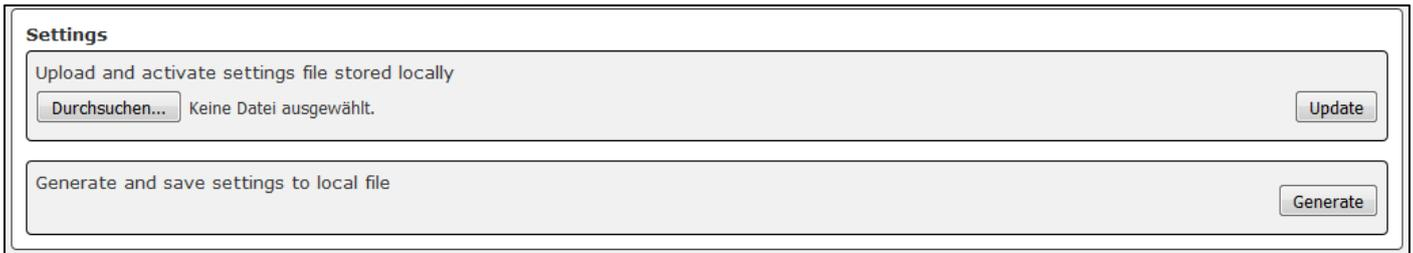

Figure 19: Upload and save device settings
2. Click the Browse button in the **Settings** field, to open the “Open file” dialogue of your operating system (see Figure 19).
2. Click the  button in the **Settings** field, to generate a copy of the current settings. The saved settings are shown as an XML file with the created date in the same block (see Figure 19).